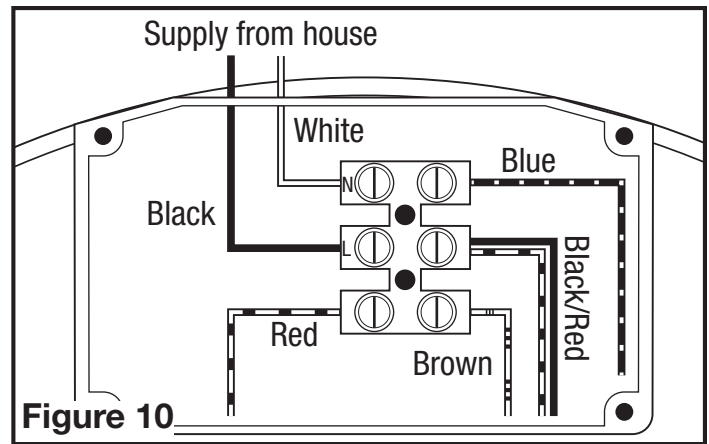

Figure 10
- Insert the white wire from the house into the terminal strip port labeled "N" and tighten using a small regular screwdriver. Insert the black wire from the wall switch into the terminal strip port labeled "L" and tighten using a small regular screwdriver. Since the motor is isolated within a plastic housing, grounding is not necessary (**Figure 10**).